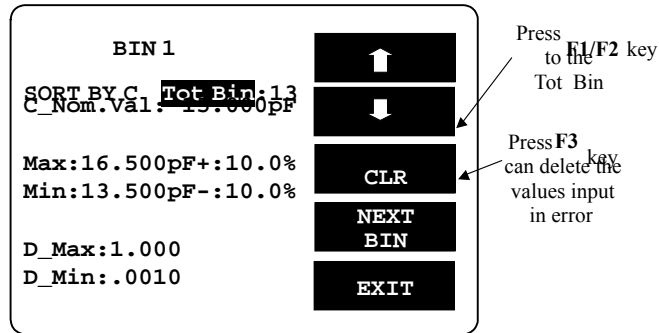

Figure 8-15
- Press **↓** key. Please refer to Figure 8-15 below.